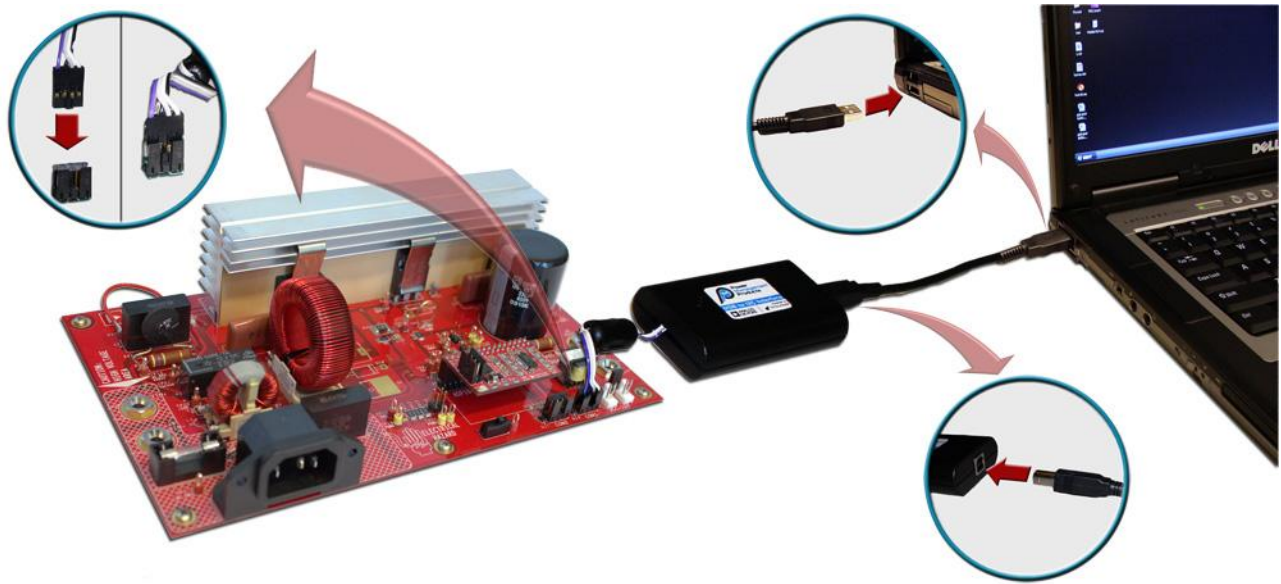

Figure 1 - Evaluation Board Setup
- 4) Connect the evaluation board to the USB port on the PC using the “USB to I2C interface” dongle as shown in Figure 1.